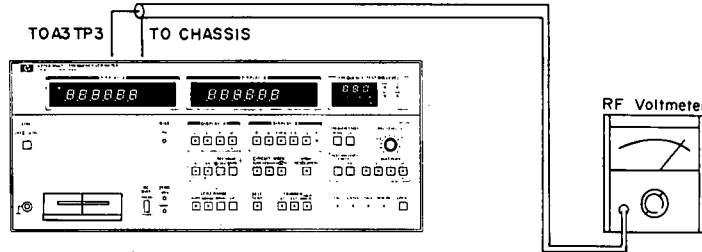

Figure 5-11. A3 Test Signal Level Monitor Adjustment.
- c. Connect 16047A to 4274A UNKNOWN terminals as shown Figure 5-11.
- j. Connect voltmeter plus input to A3TP-3 and minus input to 4274A chassis with dual banana-to-alligator clip cable. See Figure 5-11.